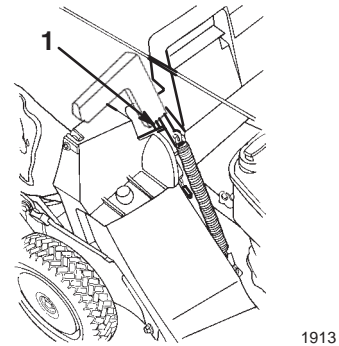

Figure 20
- Pull the discharge door handle forward and then move it rearward until the pin locks in the bag notch (Fig. 20).